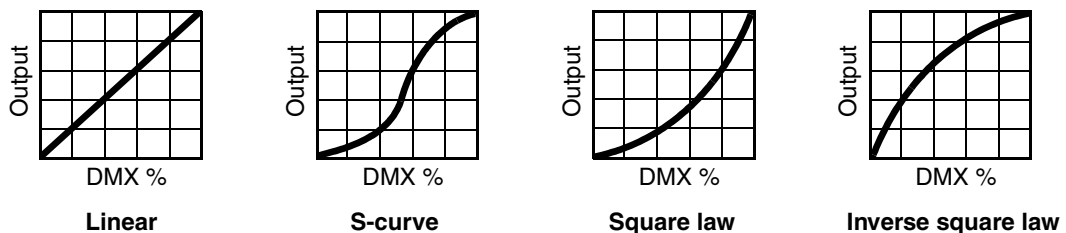

Figure 2: Dimming curve options
- **DIMMER CURVE** provides four dimming options (see Figure 2):